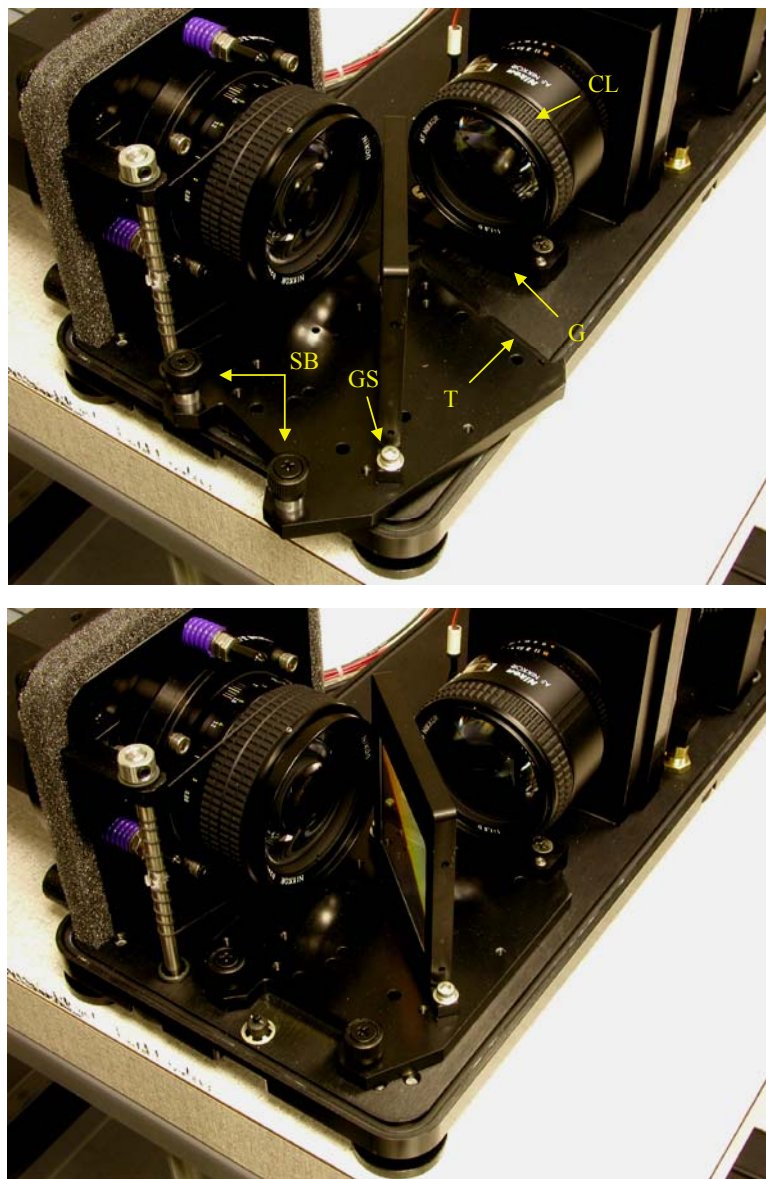

Figure 4.4. Installing a *VPH* grating. Labeled are the sub-base screws (SB), tongue (T), groove (G), collimating lens (CL), and one of the grating screws (GS).
2. Being careful not to touch the surface of the grating, grasp the grating at the top of its mounting frame with one hand and by the sub-base near the screws (SB in Figure 4.4) with the other hand.
3. Lower the entire assembly into position as shown in Figure 4.4.
4. Snap the tongue (T) of the grating assembly sub-base into the groove (G) of the grating clamp located beneath the collimating lens.
5. Tighten the two large sub-base screws (SB).